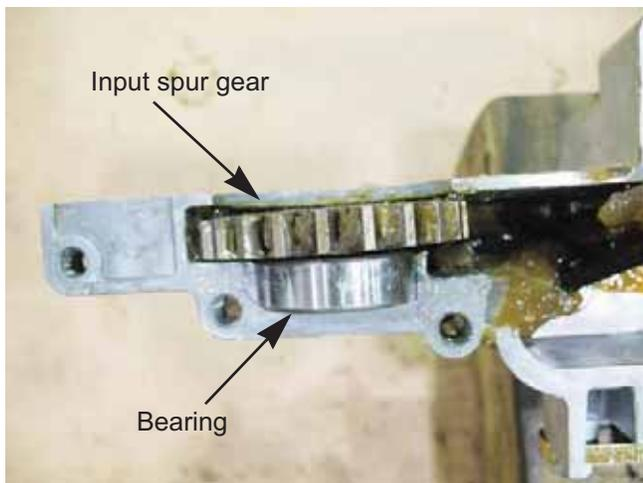

Figure 5B.39
17. Remove the input spur gear. See Figure 5B.39